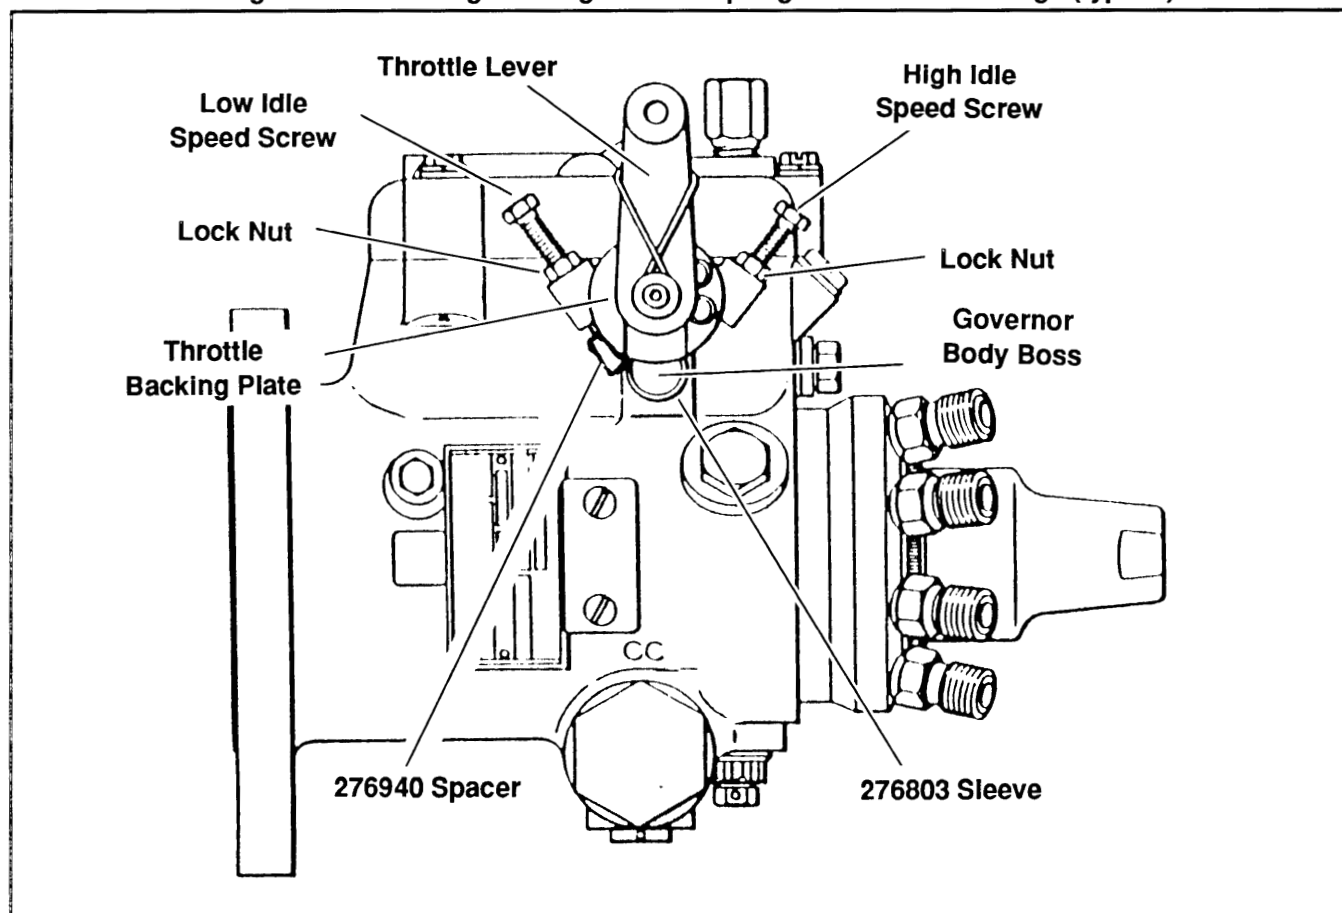

Figure 2. Installing Governor Throttle Kit (typical)
3. Use a 5/16 in. wrench to loosen the lock nuts on speed adjusting screws, see Figure 2.